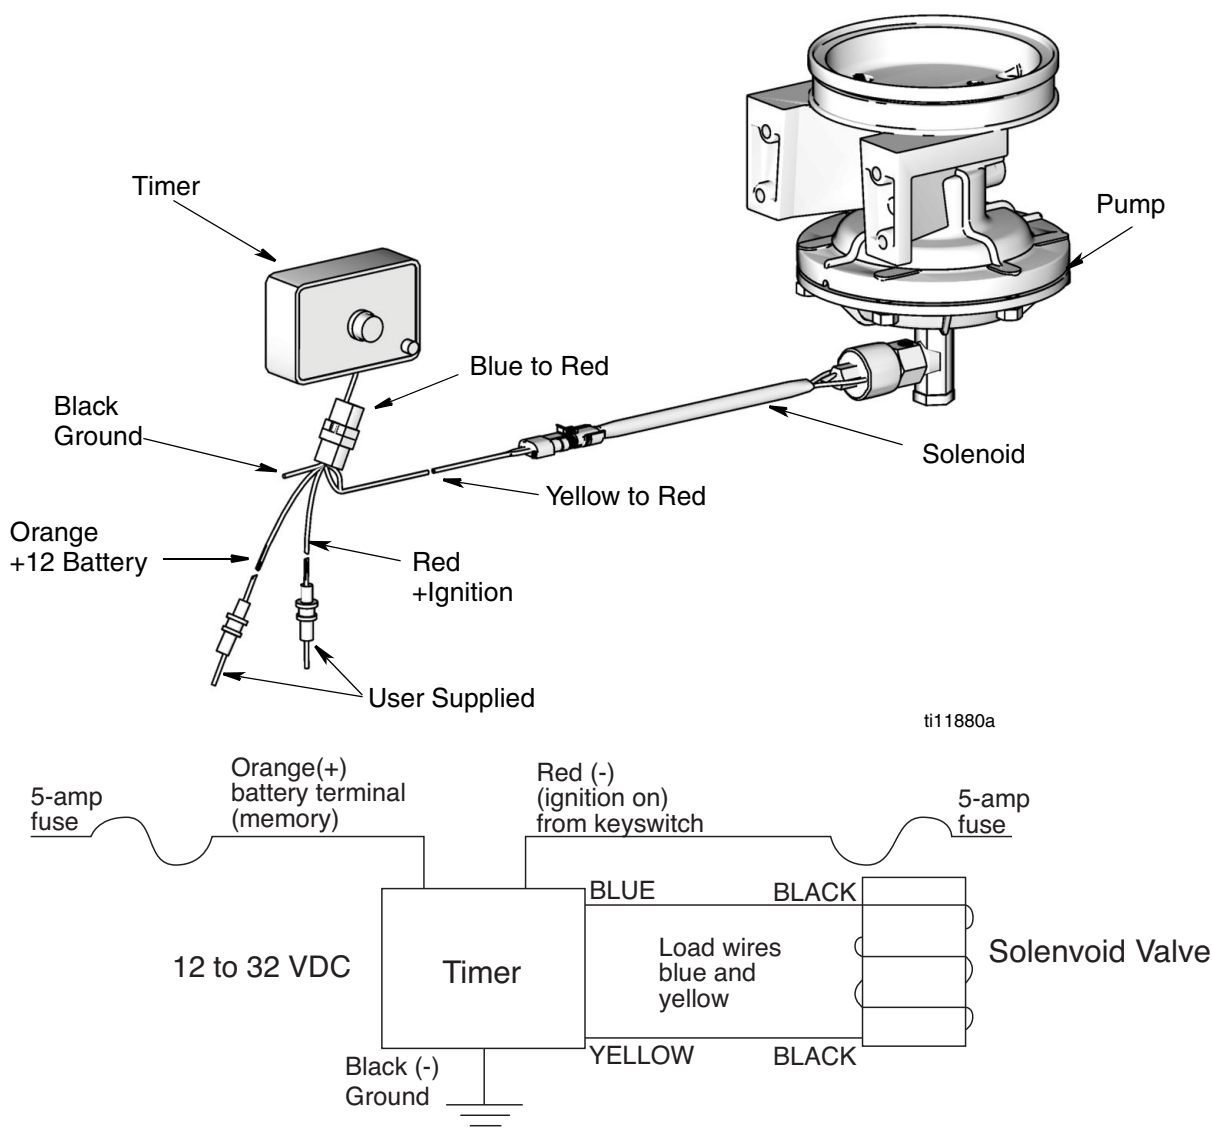

FIG. 3
1. Install timer horizontally in a protected, but easily accessible location, inside the truck cab using the 4 mounting screws provided (FIG. 3).
3. Connect the yellow timer lead to the red wire from the solenoid (FIG. 3.).